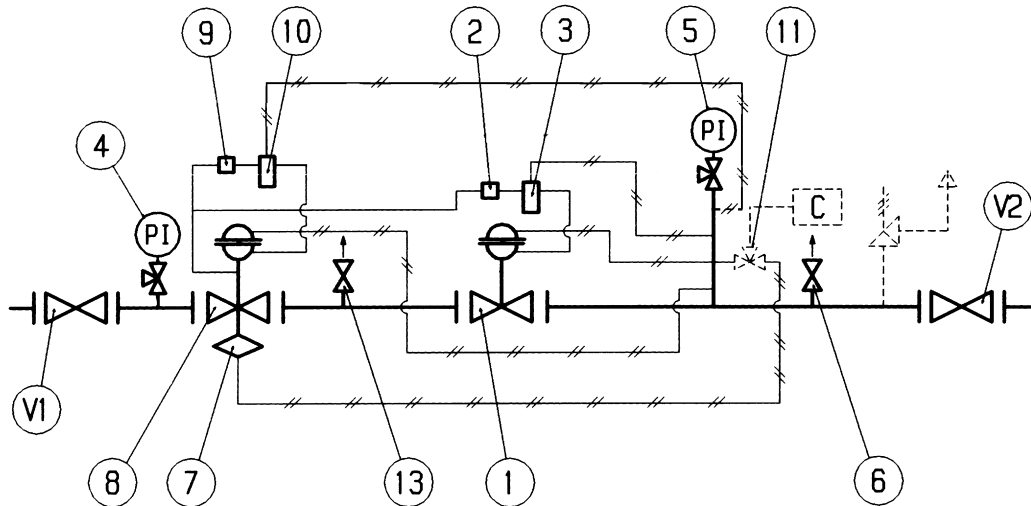

Fig. 15
6.2 MESSA IN SERVIZIO DEL REGOLATORE PIÙ MONITOR IN LINEA DIXI AP CON VALVOLA DI BLOCCO SB/87 (FIG. 15)
6.2 COMMISSIONING THE REGULATOR PLUS DIXI AP IN-LINE MONITOR WITH SB/87 SLAM-SHUT VALVE (FIG. 15)